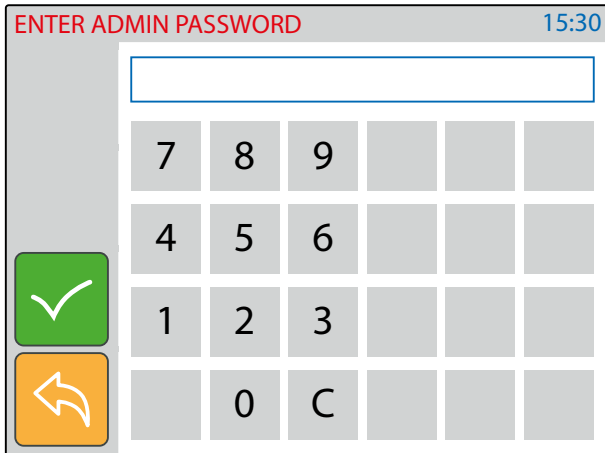

Fig. 19 Enter engineer password
- This setting is password protected (Fig. 19) because the adjustment will affect the entire installation.